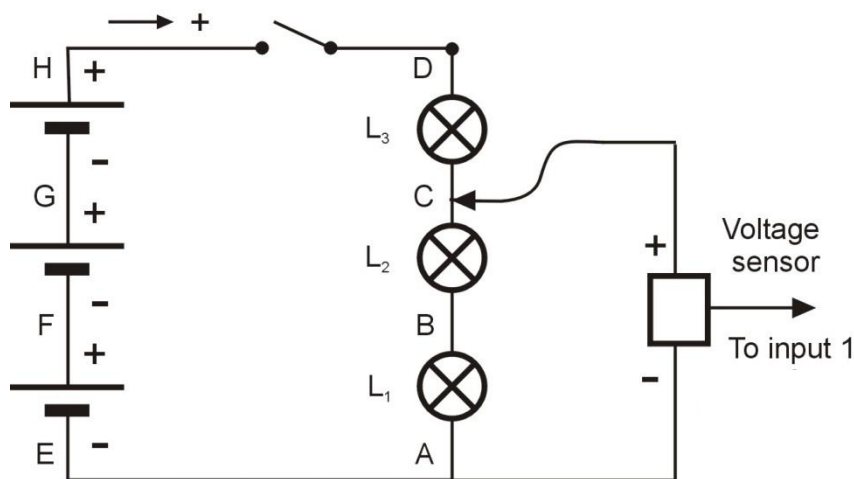

Figure 2
4. Bring the positive lead of the Voltage sensor into contact with point H on the circuit (see Figure 2).